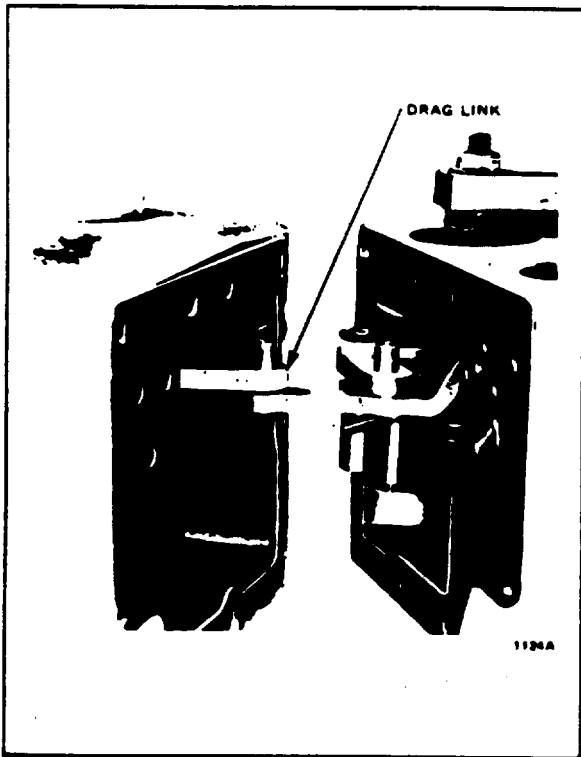

FIGURE 3. Dry link/Control link connector between ordinal control and pump.
- 2. Remove the existing control from the pump by removing the nine hex head screws from the housing. Slip the pin on the control linkage out of the end of the drag link. See Figure 3.